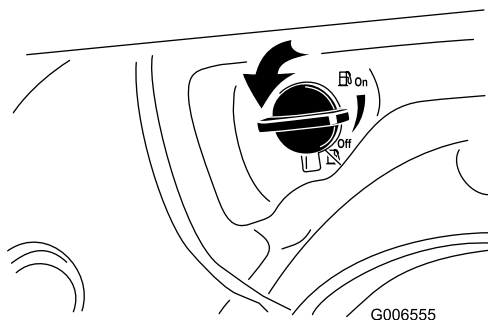

**Figure 20**
3. Insert the ignition key (Figure 20).